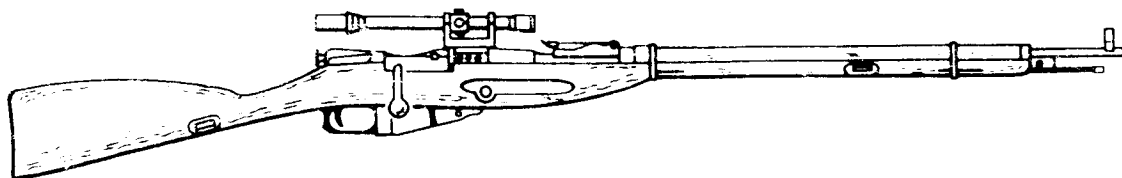

FIGURE 23. SNIPER RIFLE WITH PE TELESCOPE AND MOUNT.
c. Additional machining and tapping on the receiver of the sniper rifle M1891/30 permits the installation of three different types of mounts and telescopes. The different types of telescopes and mounts used on the sniper rifles are illustrated in figures 23 through 30.